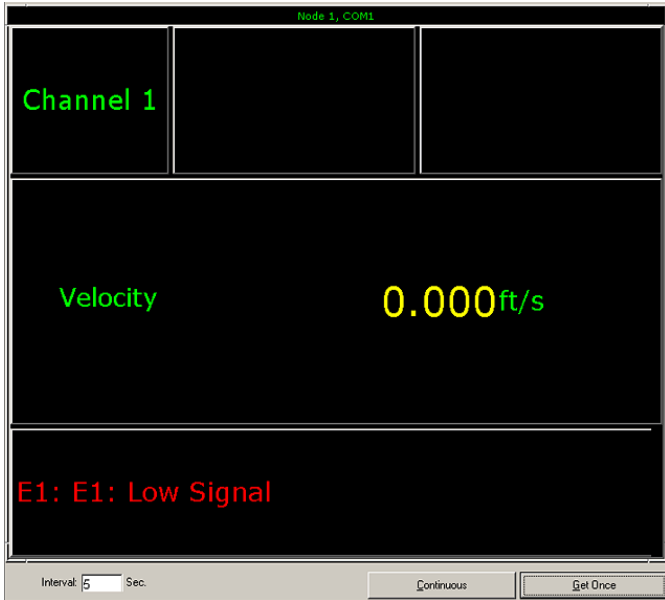

Figure 18: A Typical PanaView text display pane
The components of the PanaView text display are shown in Figure 18 below, along with a typical flow rate readout.
As shown in Figure 18 above, the PanaView text pane includes the following information:
Note: As shown in Figure 18 above, Error Code messages may appear in the lower left corner of the PanaView text display window.
- Enter an *Interval* in the text box at the bottom of the right pane in the *Text Display* window, or check the *Max. Comm Rate* box to collect readings as fast as the system allows (i.e., 1 sec). Then, click on the [**Continuous**] option button to begin collecting data for display in the right pane of the *Text Display* window. The right pane now appears similar to *Figure 18* on page 24.